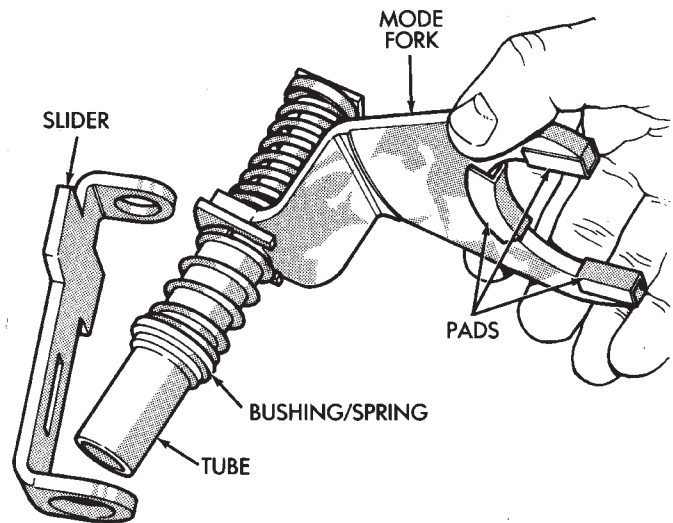

Fig. 62 Mode Fork Components
(39) Inspect mode fork assembly (Fig. 62). Replace pads and bushing if necessary. Replace fork tube if bushings inside tube are worn or damaged. Also check springs and slider bracket (Fig. 62). Replace worn, damaged components.